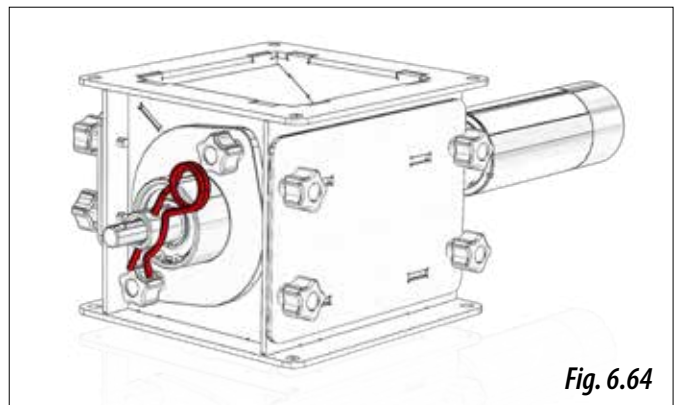

Fig. 6.64
- 7- Reinsert the roller in the dispenser and place the "R" pin (Fig. 6.64).